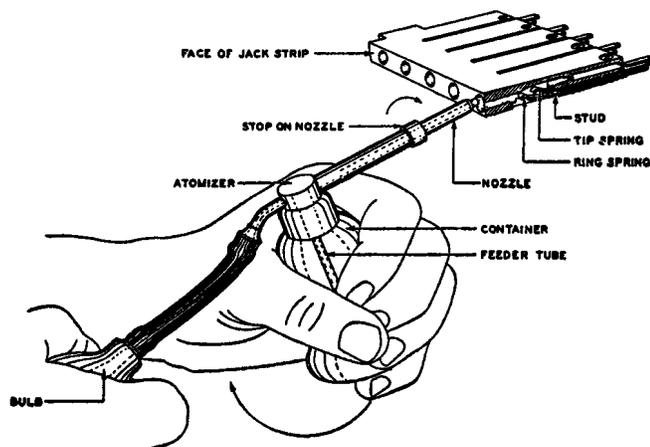

Fig. 2 - Method of Lubricating Stud
(4) Place a sheet of the No. 20 paper in a vertical position and hold the atomizer so that the base of the container is in a horizontal plane and the end of the nozzle is approximately 1/8 inch away from the paper. Lightly squeeze the bulb and note the spray against the paper. Using a clean section of the paper, repeat the operation until the lubricant coming from the atomizer against the paper leaves a stain on the paper and yet does not flow. This is the amount of lubricant which should be deposited on the stud and governs the amount by which the bulb should be squeezed. Practice squeezing the bulb until the "feel" is obtained.
(5) **Lubrication of Jack:** Hold the container with the left hand and the bulb with the right hand as shown in Fig. 2. Insert the nozzle into the jack until the stop on the nozzle rests against the face of the jack strip. The nozzle in this position will rest over the tip and ring springs. Raise the container slightly and squeeze the bulb as outlined above. Raising the container depresses the springs and allows the lubricant to strike the stud squarely. The speed of lubrication may be increased by inserting the nozzle into the jack in a downward rotary motion and squeezing the bulb all in a single operation. Exercise care not to get any of the lubricant on the face of the jack strip. If, however, any of the lubricant does get on the face of the jack strip, remove it with a clean